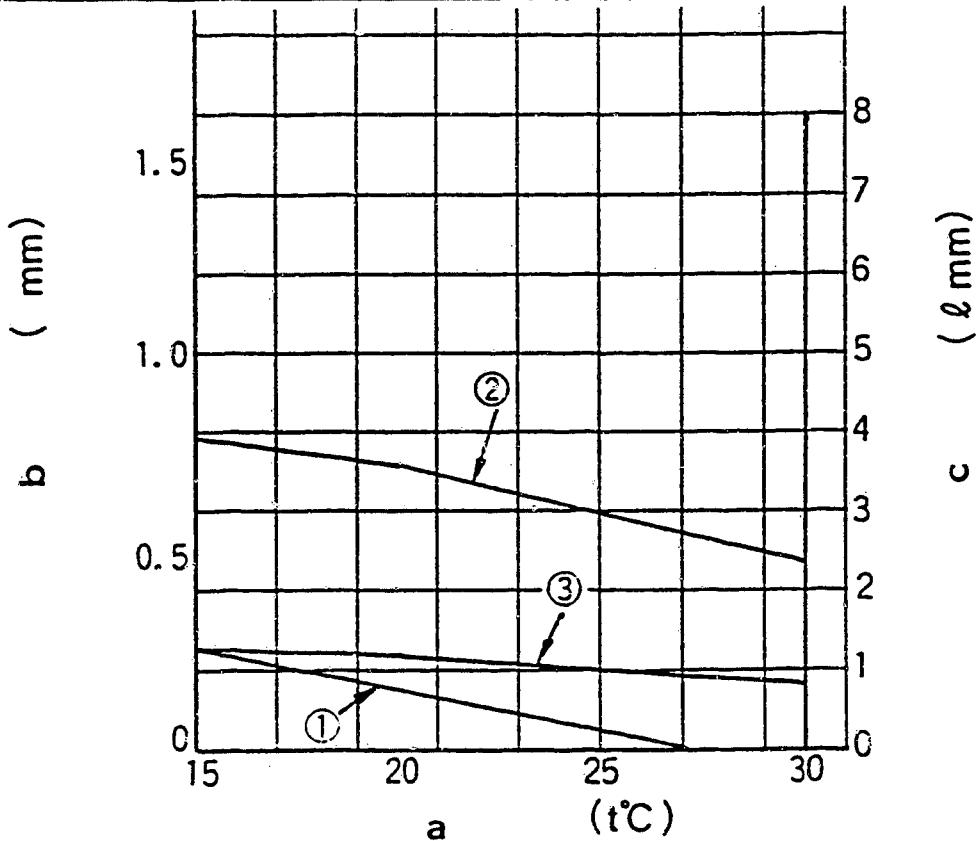

Figure 22
1) Calculate the timer stroke from Fig. 22 according to the atmospheric temperature at the time of adjustment.
- 1) Calculate the block gauge dimension  $l \pm 0.05$  mm from Fig. 22 according to the atmospheric temperature at the time of adjustment.